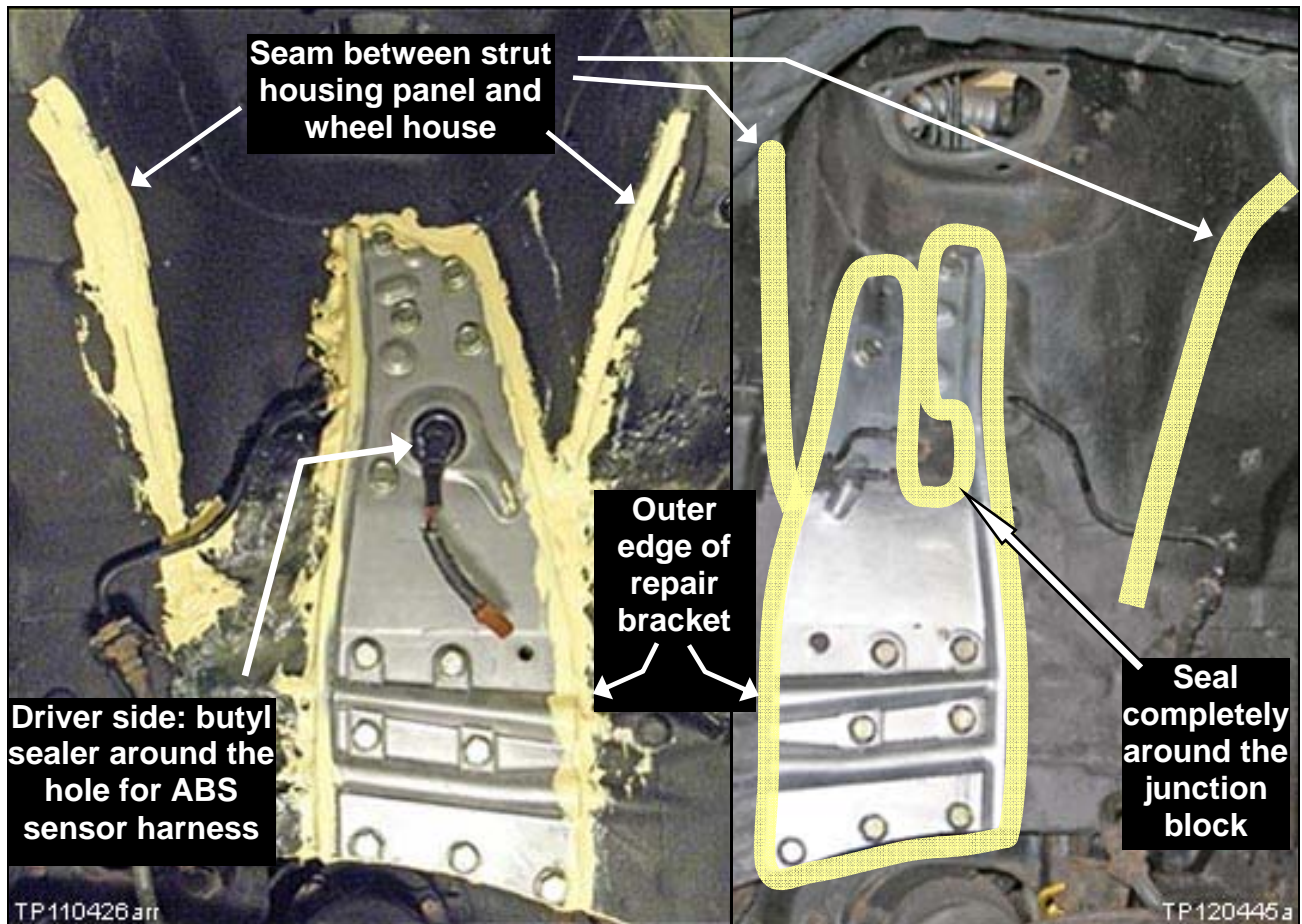

Figure RB30
- a. Load the cartridge into a 1:1 dispensing gun (see Figure RB30).